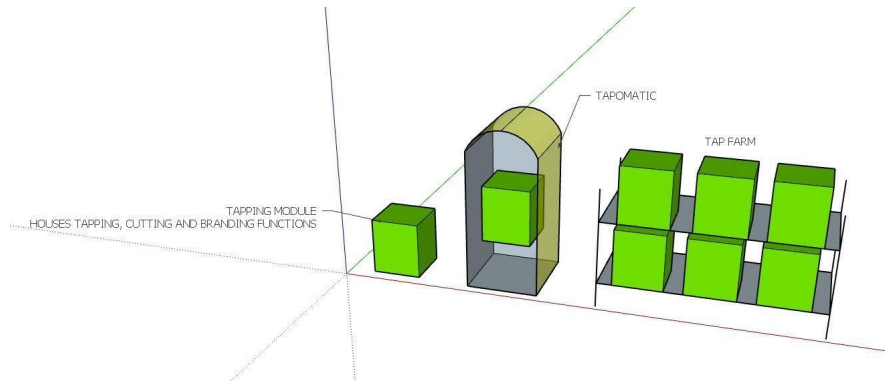

Figure 1 - Modular drilling, tapping, and topping off module
5. Build a *drilling, tapping, and topping off module* that can be placed into three different environments (Small Production, Retail, Large Production) for a variety of business use cases (see Figure 1 below)